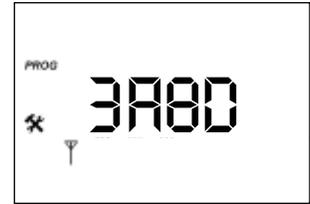

Fig. 3
- b. Press and hold  and  (on Monitor) for at least 5 seconds (but less than 10 seconds) until four digit communication address is displayed (Fig. 3).